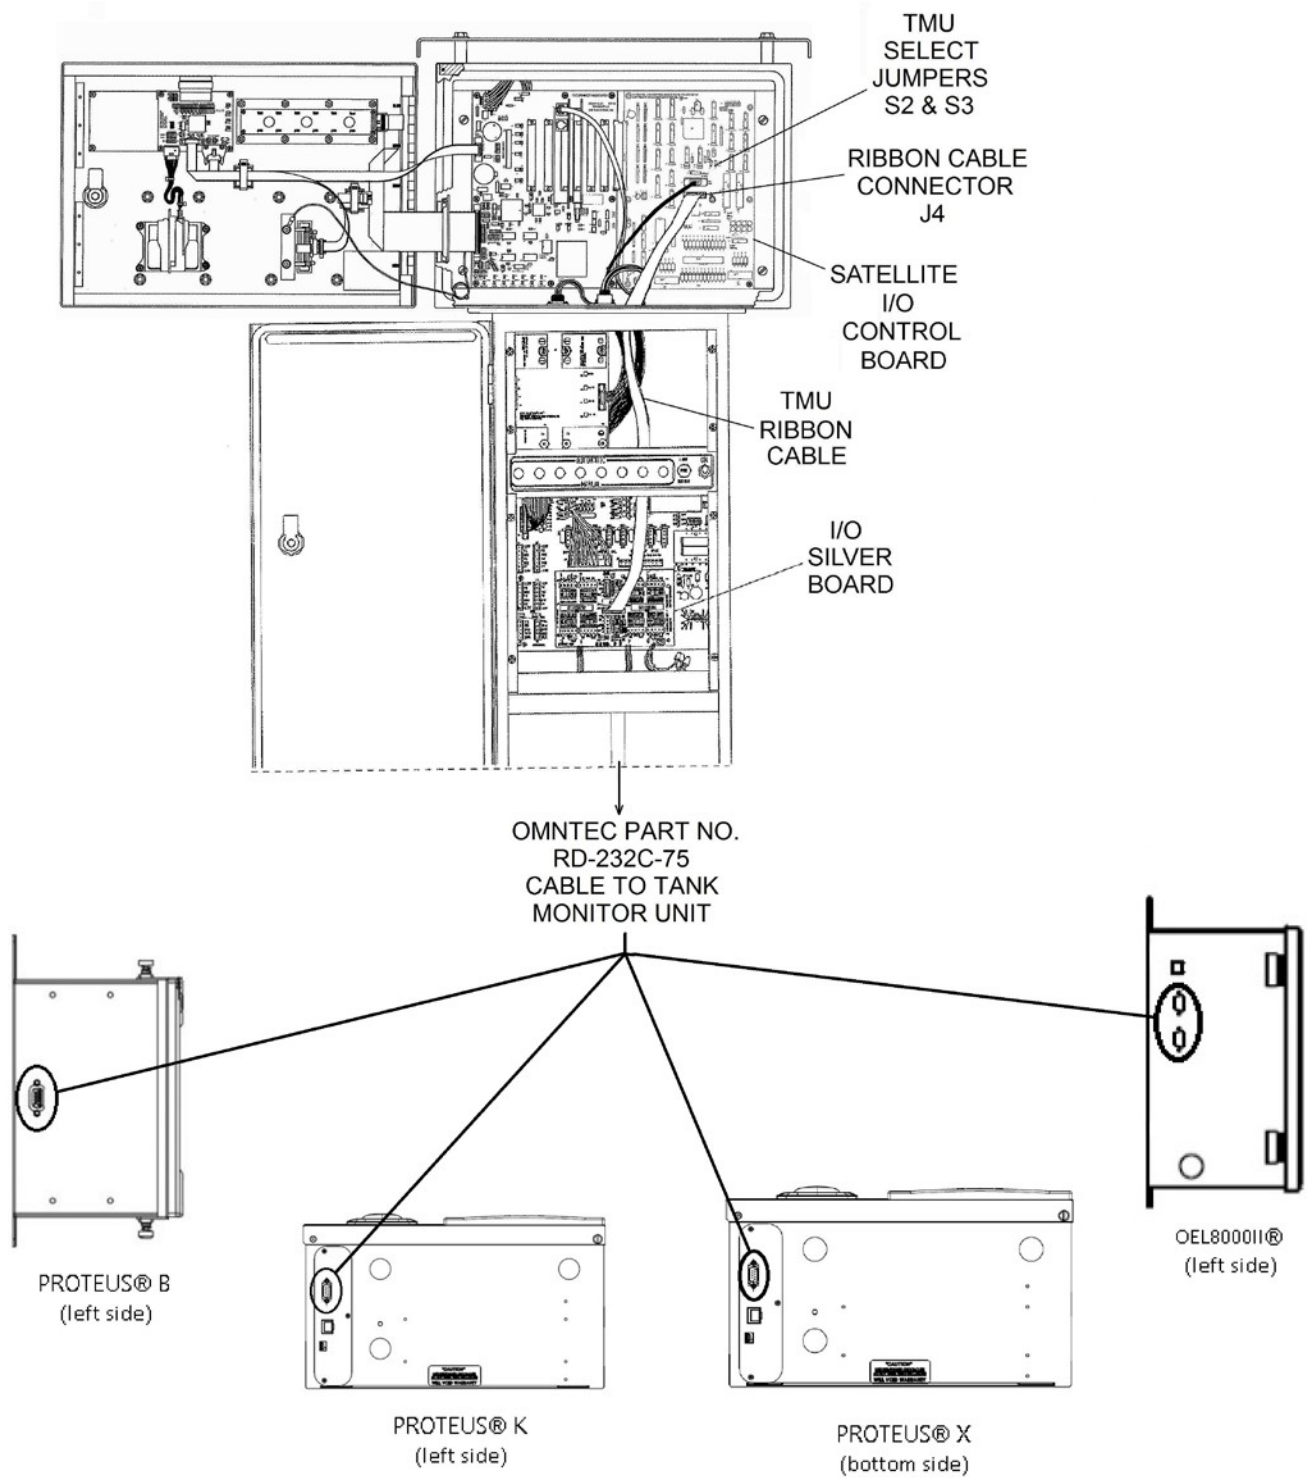
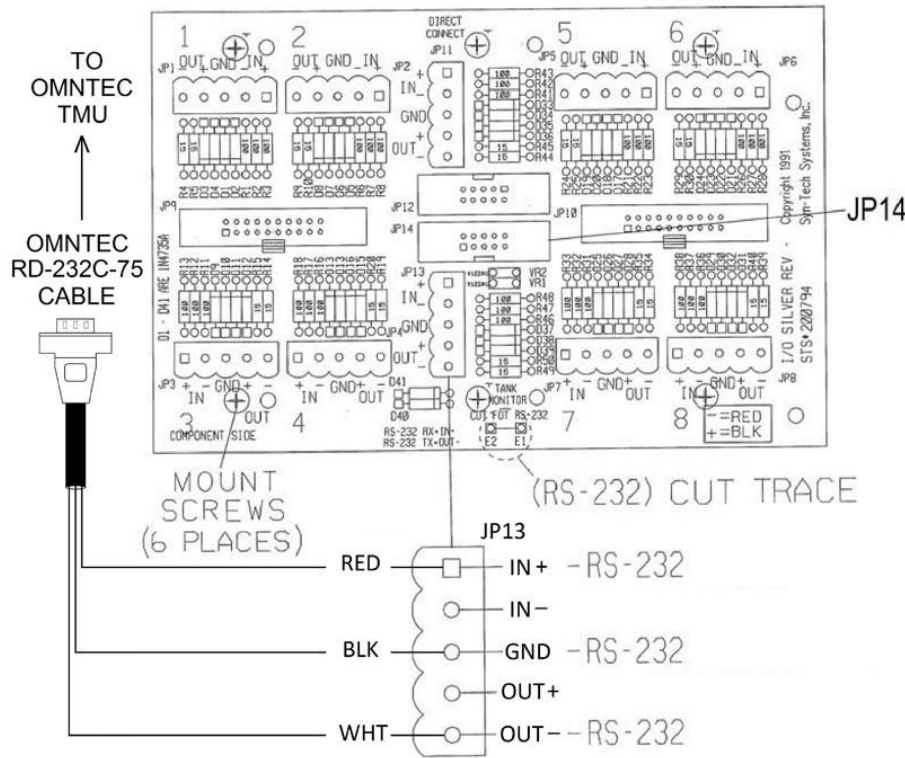
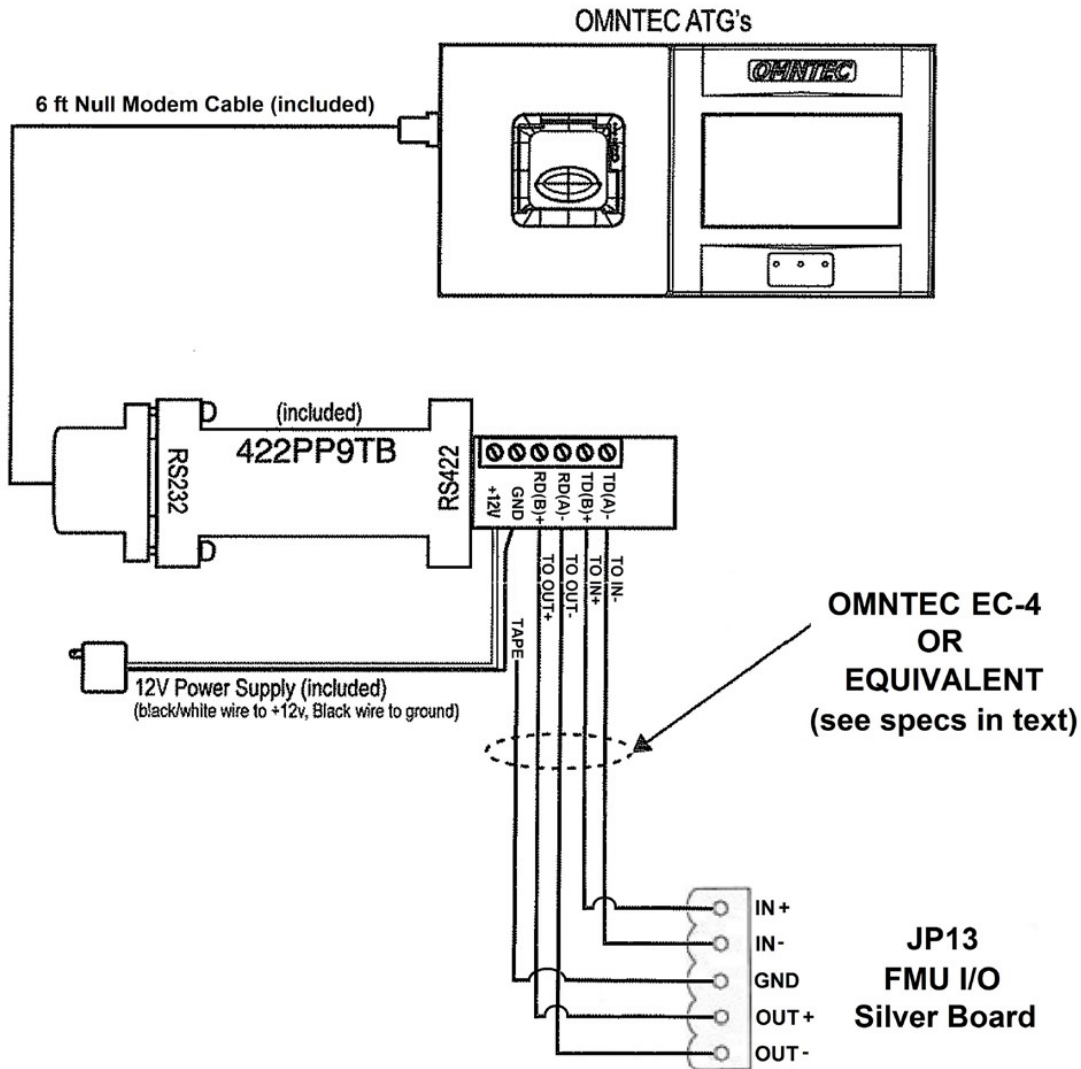

Figure 1. OMNTEC Interfaces for FMU with Tank Monitor Interface Kit (Tank Monitor DB9 Connectors are Circled)
Figure 2. OMNTEC RS232 Cable Connection to I/O Silver Board
Figure 3. Connecting the OMNTEC FM422KIT to the FMU I/O Silver Board
Interface components for a Master FMU are available in kit form (Figure 1). The Tank Monitor Interface Kit (TMIK) includes an I/O Silver Board (see Figure 2). I/O Silver Boards are configured for specific applications, such as a tank monitor interface. If the TMIK is being purchased and installed in an FMU already possessing an I/O Silver Board used for another application, let Syntech know the application. The TMIK I/O Silver Board may be sent with the additional components installed on the board to cover other applications.
Two different kits were tested for runs over 75 feet up to 3000 feet. One of those devices was an OMNTEC FM422KIT as shown in Figure 3 which included the converter, power supply, and 6-foot null modem cable shown in the figure. Another kit tested by Syntech was a B&B Electronics 4WSD9TB RS232/422 Converter, with a B&B Electronics 485PS Power Supply, and a 6-foot null modem cable. They both perform the same function, and are closely matched in price. A null modem cable was opted over a null modem adapter. A Converter with an adapter could not be secured to the tank monitor to prevent disconnection. The null modem cable provided for a more secure connection.
6. If no previous I/O Silver Board, remove six screws from Pedestal I/O Board (above and below TB1, TB2, and TB3 where shown in Figure 2) and thread six 6-32 X 1.00 standoffs into the screw holes.
10. (75 feet or less cable) If using the OMNTEC RD-232C-75 cable, match the wire color to the pin as shown in Figure 2. Make the applicable cable connections according to the below connection points. FMU JP13 is the 5-pin connector on the I/O Silver Board. OMNTEC DB9 are the pin connections you make to the DB9 connector on the OMNTEC TMU when running RS232 from the FMU to the TMU.
NOTE Depending upon the cable used, a braided shield or drain wire may be utilized for GND in Figure 3. As shown in the figure, it is only connected at the FMU end of the cable.
11. (Extended Length Cable) See Figure 3. The OMNTEC FM422KIT may be used to extend the cable length beyond 75 feet. In Figure 3, the EC-4 cable is Belden 9940 cable, a 4 conductor, shielded, 22 AWG, stranded wire, PVC insulated, RoHS compliant, 300-volt cable. At the top of the figure is the tank monitor connection. At the bottom is the FMU connection. The 422PP9TB requires a connection to a 12V power supply supplied with the kit. They will need to be located where there is a 115VAC outlet to plug into
1/20/2015	Revision: Added breakdown of TMIK, page 1 Changed reference page 1 from RS422 with Patton converter to RS422 with OMNTEC Booster Kit Figure 2, page 3, removed reference to RS422 connection points Added Figure 3, page 4, to show installation of OMNTEC Booster Kit Removed NOTE, page 4, discussing drain connections Removed CAUTION, page 4, for cutting trace on I/O Silver Board for RS422 Step 10, page 4, removed reference to RS232/422 Converter Added step 11, page 4, to describe use of OMNTEC Booster Kit Revision 2/17/2015: Changed RS422 converter references in last two paragraphs of page 1 Accomplished Figure 1 for better definition of tank monitors Changed step 4, page 3, to reference RS422 using converter Figure 3, page 4, working with OMNTEC, reworked the drawing to remove one of the 422PP9TB and power supply, and change the cable from EC-6 to EC-4 Step 12, page 4, added "two lower pins for RS22" Step 16.c.(5), page 5, added "Any one of these selections may be made to obtain automatic inventory reports from OMNTEC tank monitors". OMNTEC uses the same commands as Veeder Root